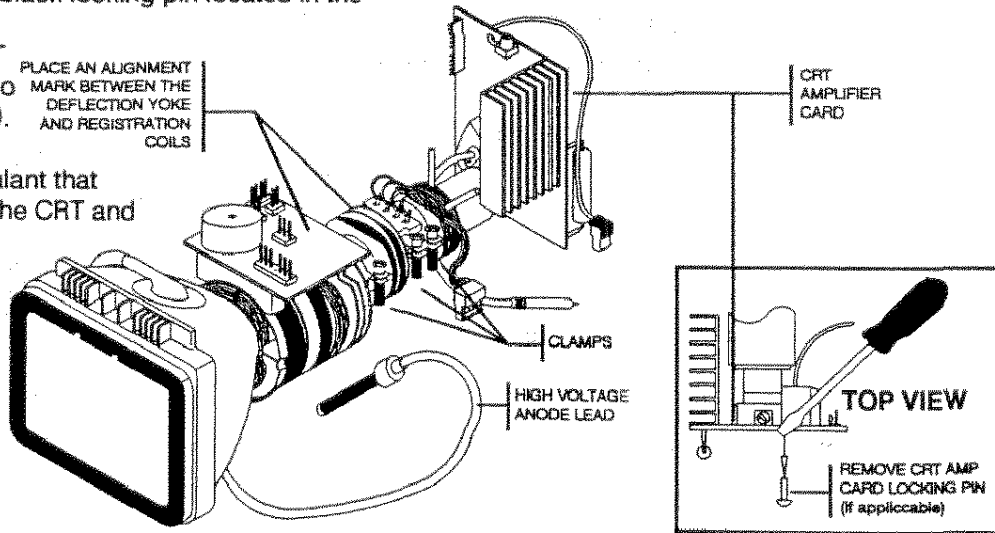

FIGURE 3-27. CRT REMOVAL PROCEDURE.
B. Remove the CRT Amplifier card located at the rear of the CRT. **NOTE:** It may be necessary to remove the small black locking pin located in the center near the bottom of the CRT Amp Card. Refer to Figure 3-27 (insert). Additionally, cut away any RTV sealant that may be between the CRT and CRT Amp card.